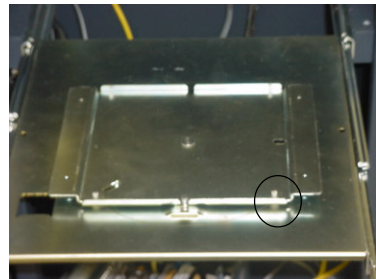
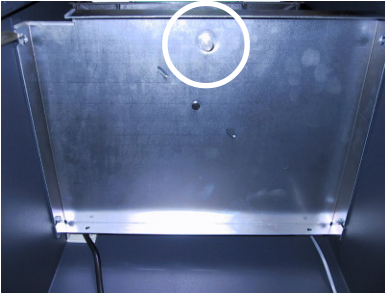
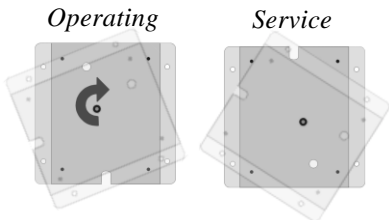

Figure 4. Turntable in operating position. Note that plate hole is to the right.
Figure 5. Location of turntable release pin, on underside of dispenser tray.
Figure 6. Rotate turntable.
5. If the turntable is in the operate position (Figure 4), pull down on the turntable locking pin located on the underside of the tray, as shown in Figure 5, and rotate the turntable clockwise until it is in the service position, as shown in Figure 6. Release the locking pin to lock the turntable in the replenishment position.